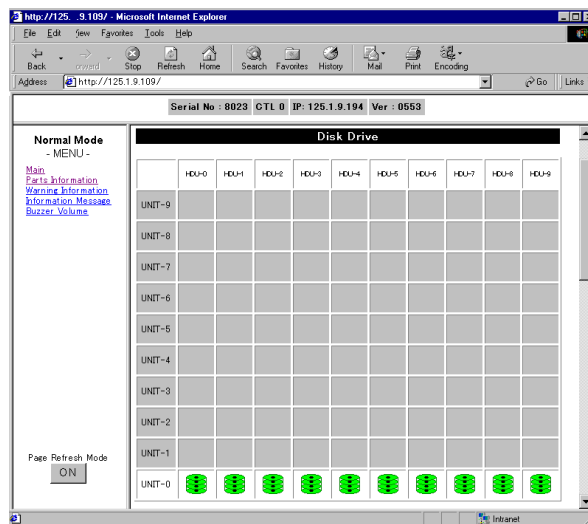

Figure 5.24 WEB Screen (22)
- The Parts Information screen (see figure 5.24, 5.25, 5.26)